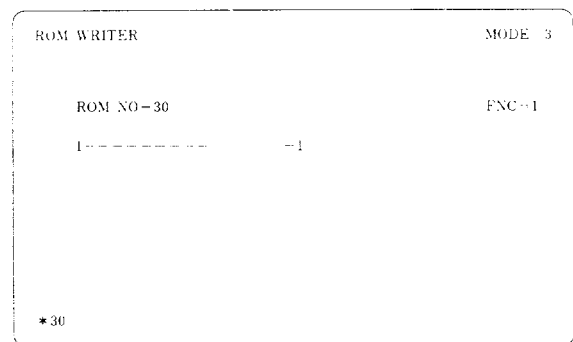

Fig. 9.29
- vii. Key-in a desired 2-digit P-ROM location number (noted numbers in procedure iv.) from editing panel. If the 3, 0 and **[WR]** keys are keyed-in, display as shown in Fig. 9.29 will appear.